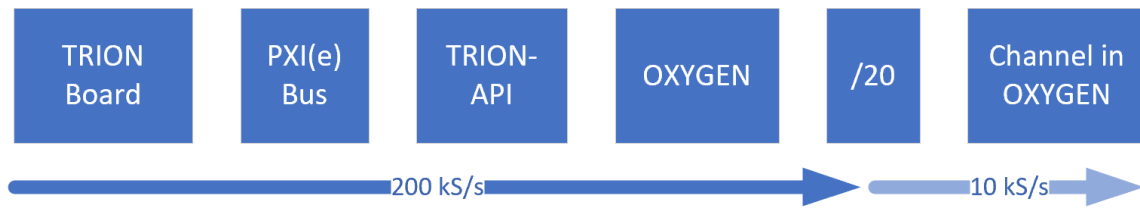

Fig. 7.35: Working principle for the channel-wise sample rate reduction
- A point can be removed by clicking on the – button (see Fig. 7.35)